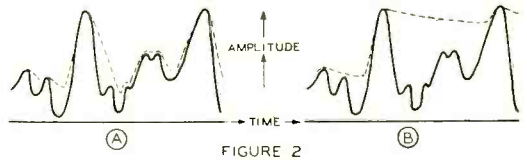

FIGURE 2
In figure 2 is shown a comparison of the operation of a meter of this type and of a standard high-speed v.i. meter of the copper-oxide type when operating on a complex audio wave. The dotted line in figure 2 (A) shows how the needle of the conventional type is continually "on the go", indicating every minor peak as well as the major ones. This is the type of movement that is so tiring to the eyes. (B) indicates the operation of the meter described in this article on the same waveform. The major peaks are shown just as clearly but none of the minor ones are indicated. The slope of the dotted line (the movement of the needle plotted against time) is determined by